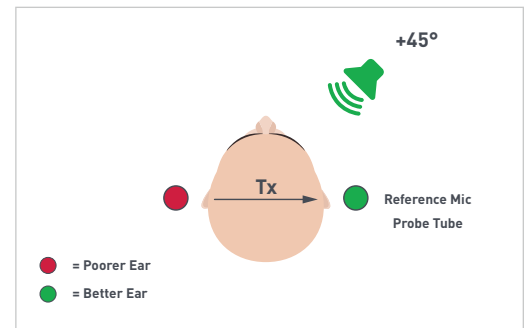

Figure 1
**Step One:** Measure the real-ear unaided response (REUR) for the better ear: [Fig. 1]